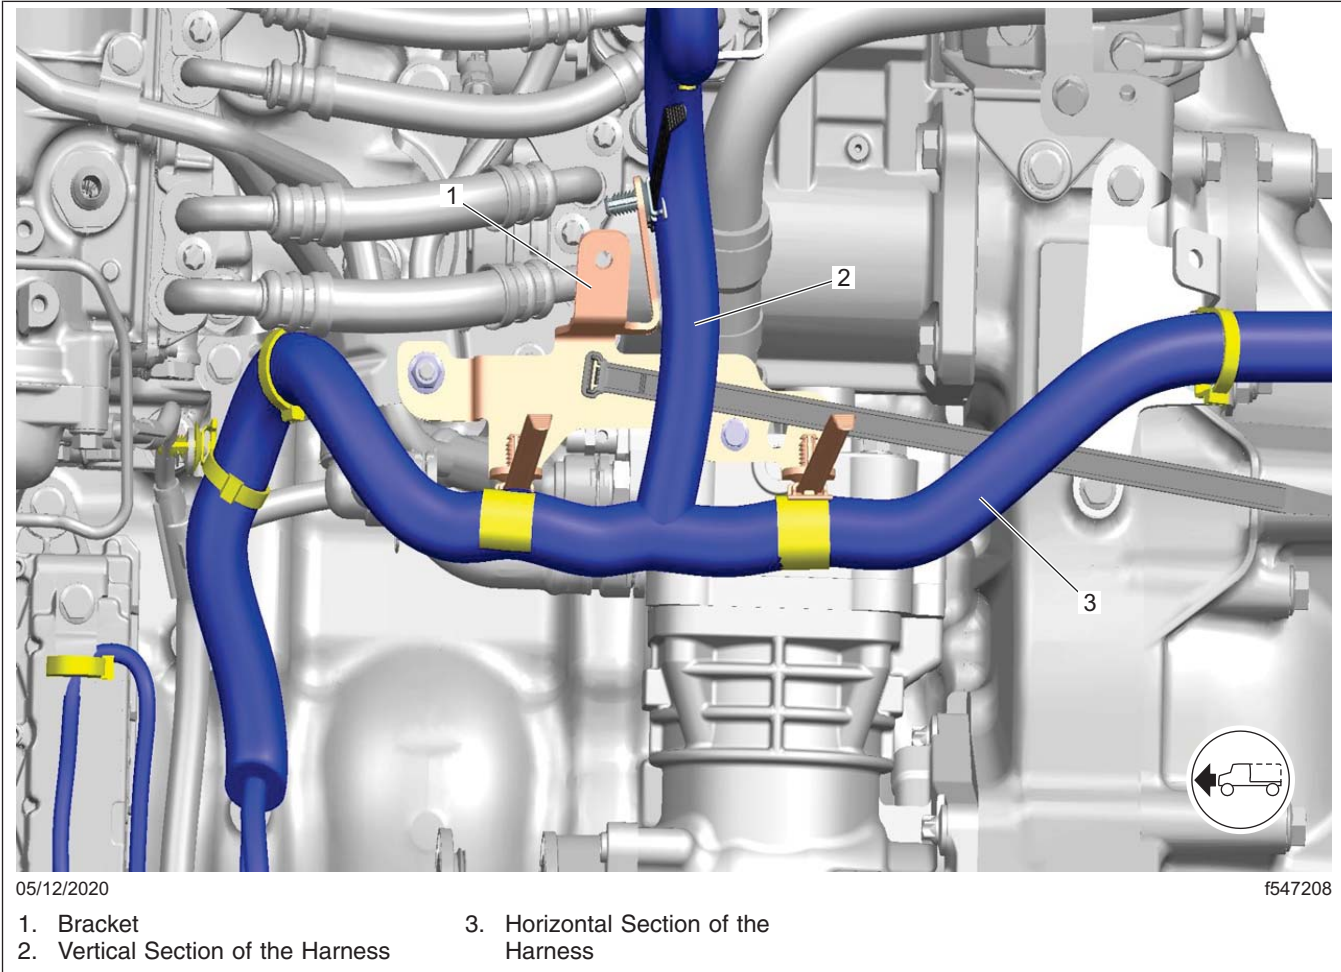

Fig. 6, Securing the Harness to the Bracket
9. Secure the engine harness to the bracket using the fir tree and tie strap. See **Fig. 6**.